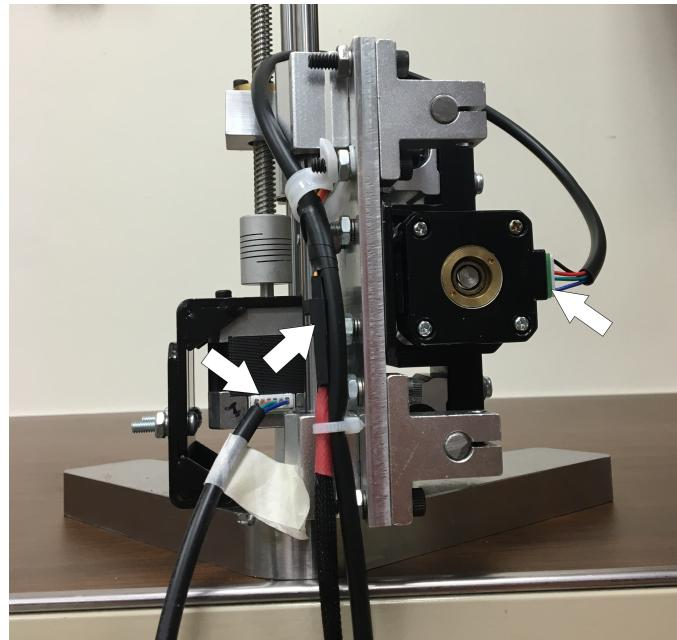

Figure 14: Molex cables secured and out of the way
12. Ensure the three molex cables are securely plugged in to the ARIA (see Figure 14)